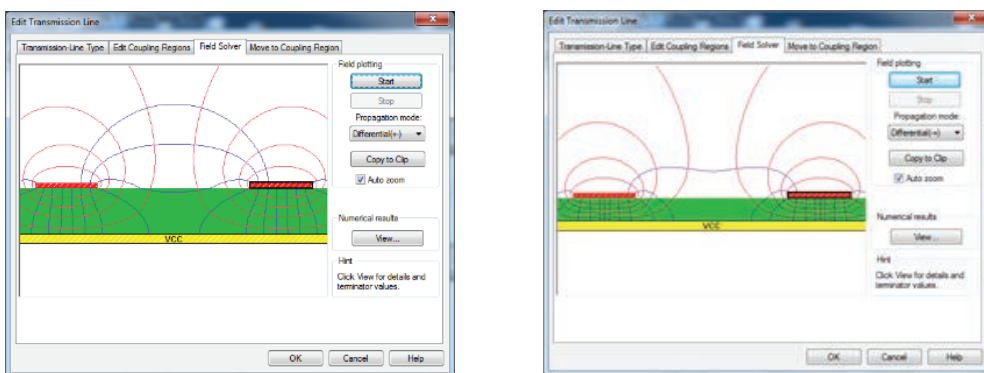

Figure 3.3
You should now know how to reduce the size of the crosstalk signal... Reduce the coupling. We can reduce the coupling by moving the traces further apart (by the inverse square law.) Or, we can reduce the coupling between (A) and (B) by moving (A) closer to the plane (Figure 3.3). That captures more of the electromagnetic field between (A) and the plane so less of the field is available to couple into (B). This is entirely consistent with what you already know. To reduce crosstalk coupling: